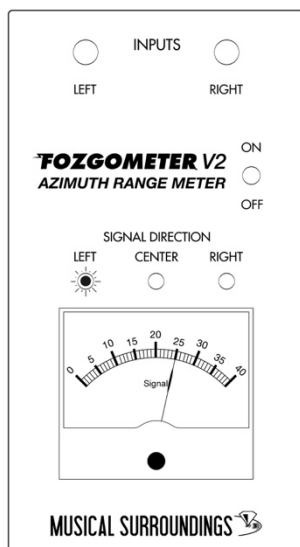

Figure 4, Left 25
2. Play Track 2 on Test LP and the LEFT SIGNAL DIRECTION indicator should light (if the right indicator lights, the channels are reversed and need to be corrected). Note the meter reading as in figure 4.
If the right channel reading is lower than the left channel, as in figures 4 and 5, you typically turn the headshell and cartridge “counter-clockwise” when looking at the tonearm from the front.